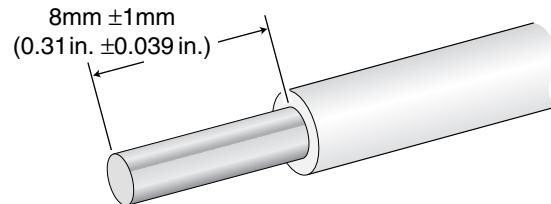

Figure 53 Stripping the Wires
- With a 14-gauge wire-stripping tool, strip the three wires in the tray cable coming from the DC input power source to 8mm ± 1mm (0.31 in., ± 0.039 in.). See Figure 53.